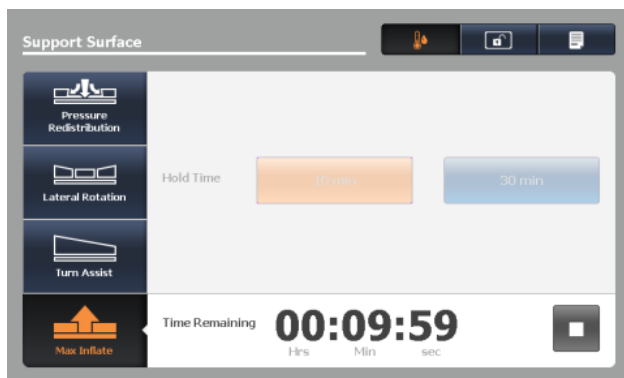

Figure 63 – Max inflate time remaining
- When inflation is complete, the **Max Inflate** duration window displays and the selections are gray (Figure 63). The timer will count down to zero.